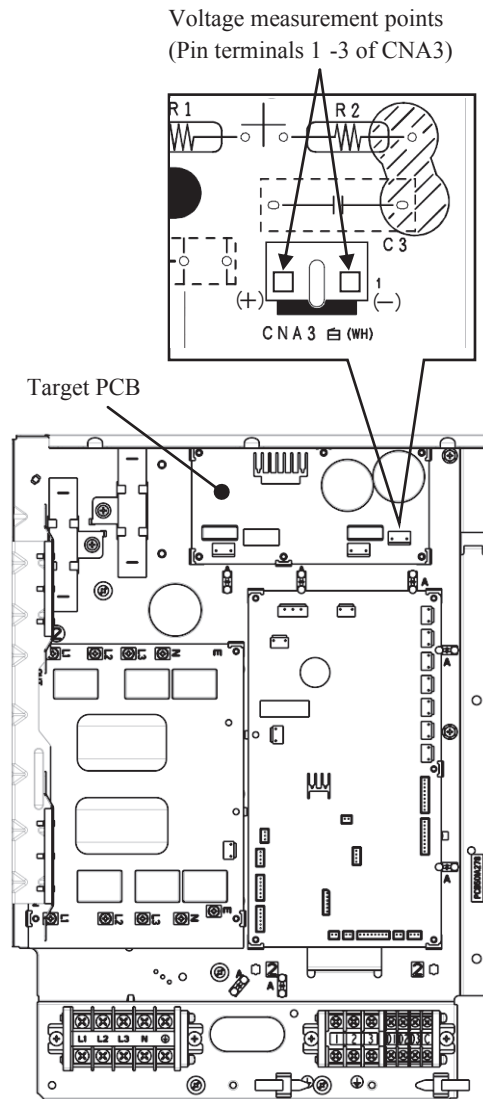

Fig.2 Voltage measurement points
2. (**Be sure to measure voltage (DC)** on Pin terminals 1-3 of CNA 3 and **check that the voltage is discharged sufficiently.** (Refer to Fig.2))